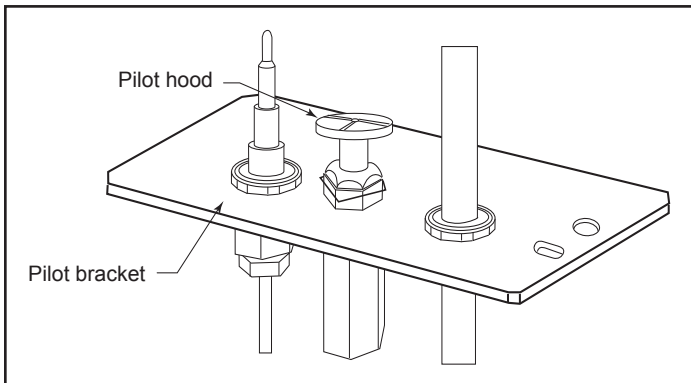

Figure 7.8 - Remove pilot hood.
- Remove pilot hood by lifting up. (Figure 7.8) Do not remove the snap ring to remove the pilot hood.